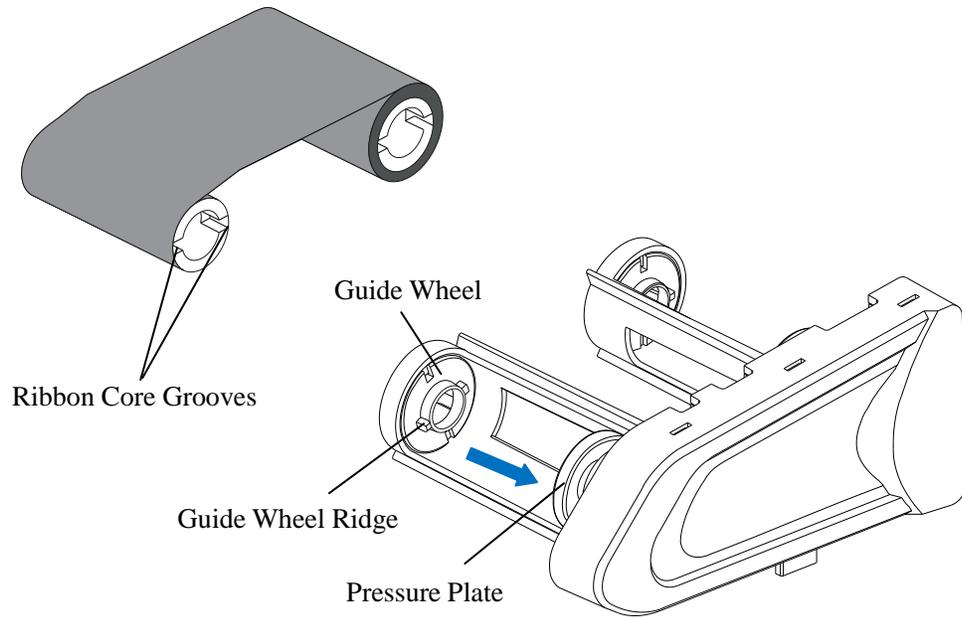

Figure 2-7
3. Unpack and load the ribbon roll onto the ribbon supply side, making sure to align the Guide Wheel Ridge with the grooves in the ribbon core (Figure 2-7).